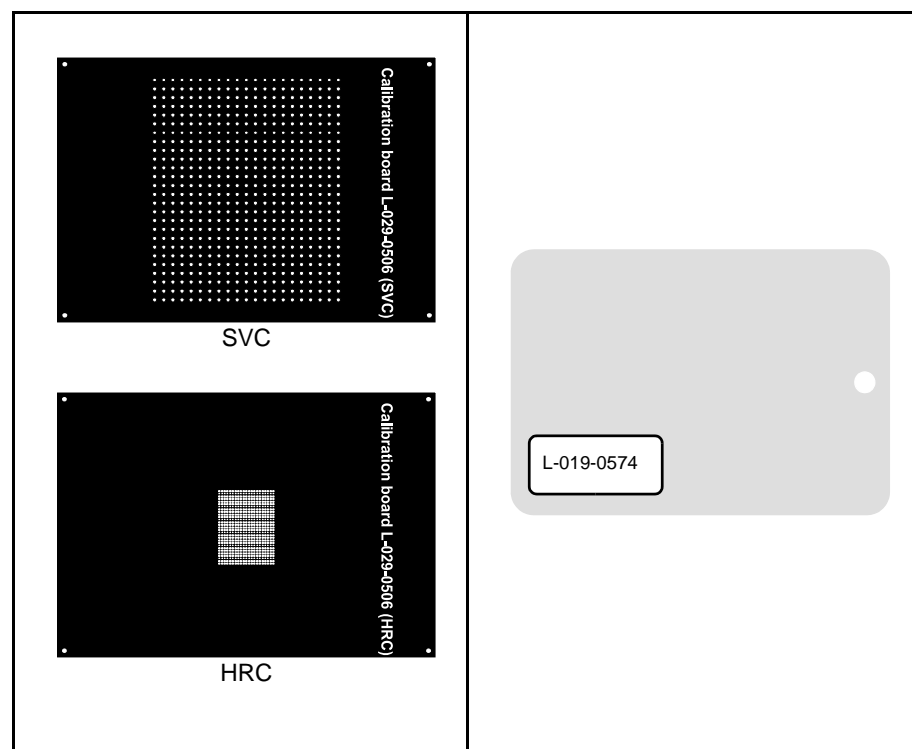

Figure 4-11. Black calibration board. Figure 4-12. Grey calibration board.
- Black calibration board, see Figure 4-11. One side of the black calibration board is used for calibrating the illumination on the SVC and the opposite side is used for the HRC in a dual vision system.
- When prompted, select if the black or grey calibration board should be used to calibrate the illumination (see Figure 4-11 and 4-12).
If the black calibration board is used, make sure that the correct calibration pattern is exposed to the camera (see Figure 4-11).